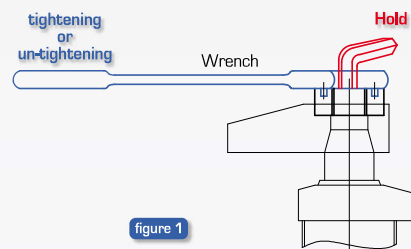

figure 1
- restrain the rod using a hex wrench (see figure 1)